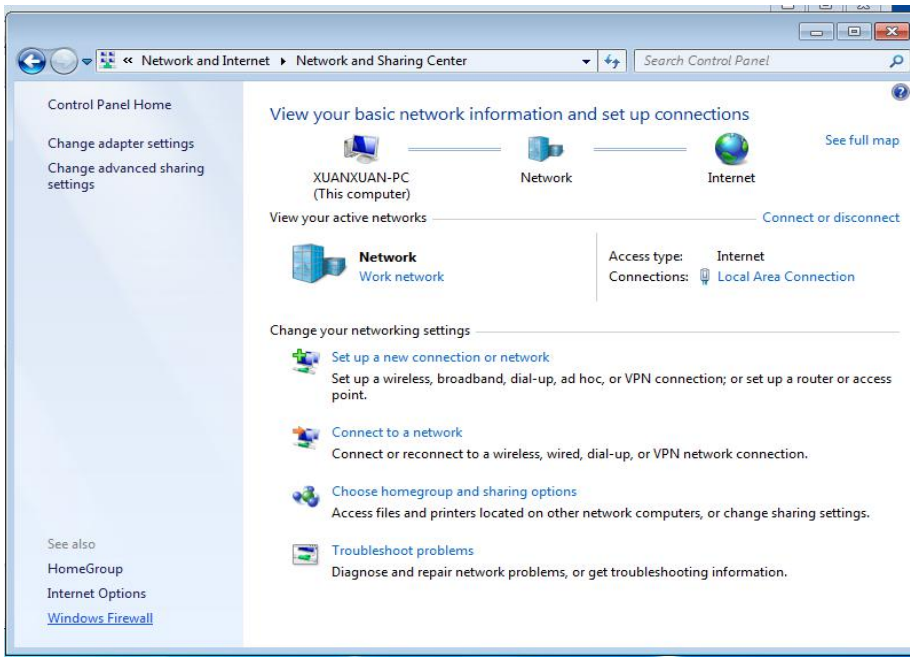
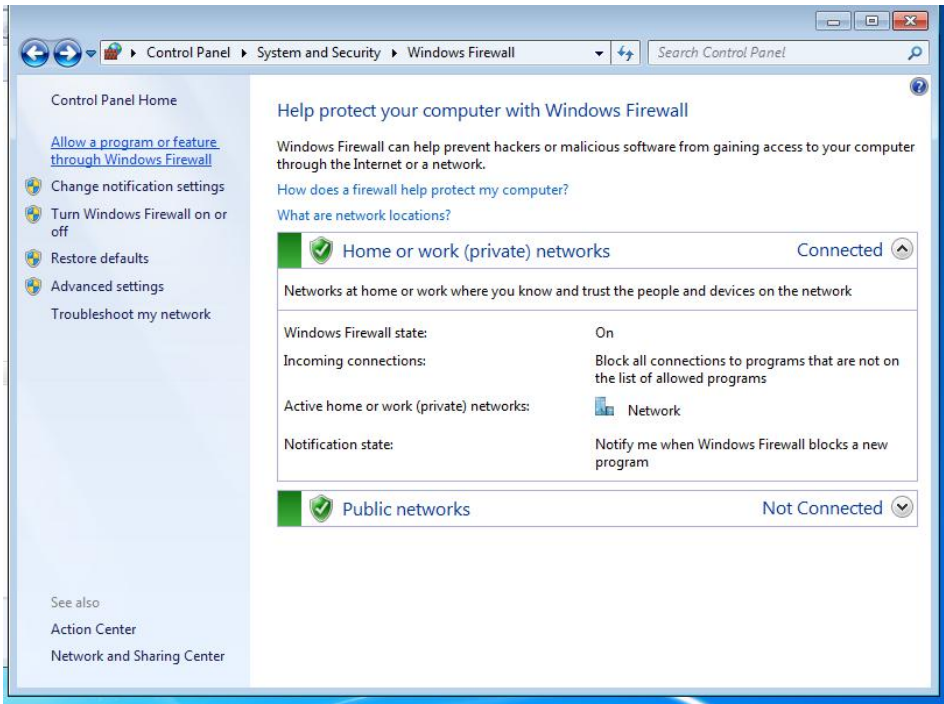

Fig.1.15 Network and Sharing Center
Fig.1.16 Windows Firewall
- (3) Click “Windows Firewall” in Fig.1.15, the interface will pop up ” (see Fig.1.16)
(4) Click "Allow a program of feature through Windows Firewall" (see Fig.1.16).